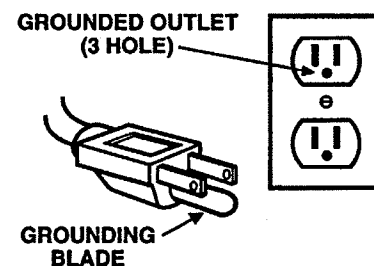

FIG. 23
6. Plug charger into grounded wall outlet after connecting charger to machine. (Figure 23)